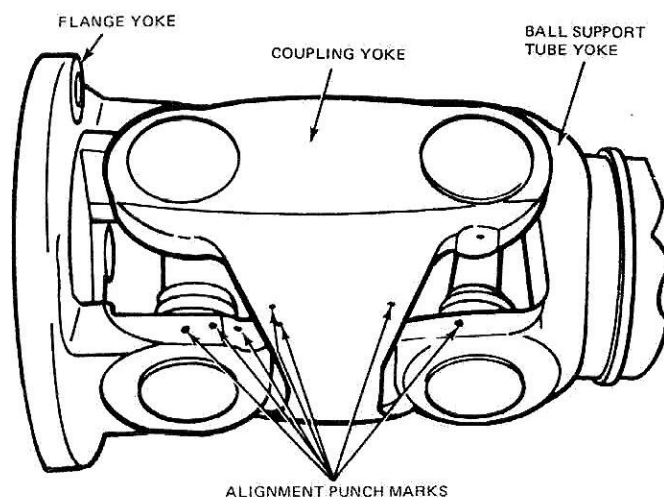

FIG. 5 Punching Alignment Marks
1. Mark the position of all yokes before disassembly so that they can be reassembled in their original relationship to retain driveshaft balance. (Fig. 5).
1. Support the driveshaft in a horizontal position in a vise. Position Tools OTC-7025-A or CJ91B (as shown in Fig. 5), and tighten the tool clockwise until the plastic retaining the bearing is sheared, and the bearing protrudes approximately 3/8" out of the slip yoke.